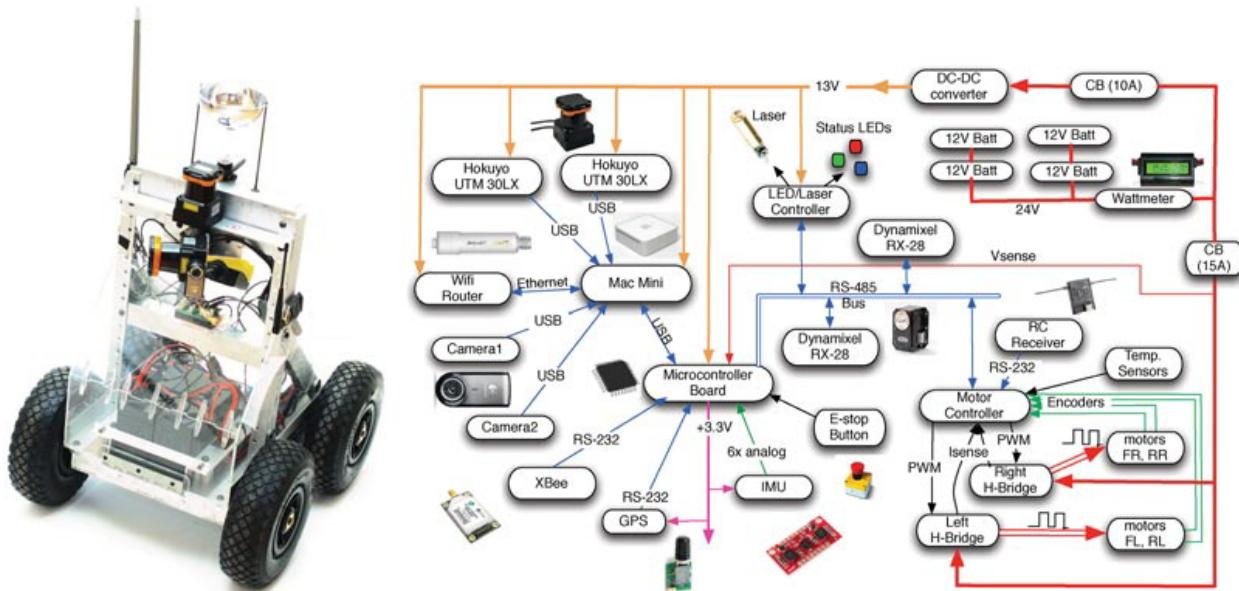

Figure 1: Differential-drive robot, equipped with encoders, IMU, 2-D LIDAR scanner, and RGBD camera.
- **Robot:** A description of the differential-drive robot is provided in `docs/RobotConfiguration.pdf`. Fig. 1 shows a schematic of our robot. Even though the description file says that the origin of the robot body frame is at the back axle, it is arbitrary and you can choose your own origin. Using the geometric center of the robot body might yield better results because the differential-drive motion model assumes that the robot is rotating around its center.